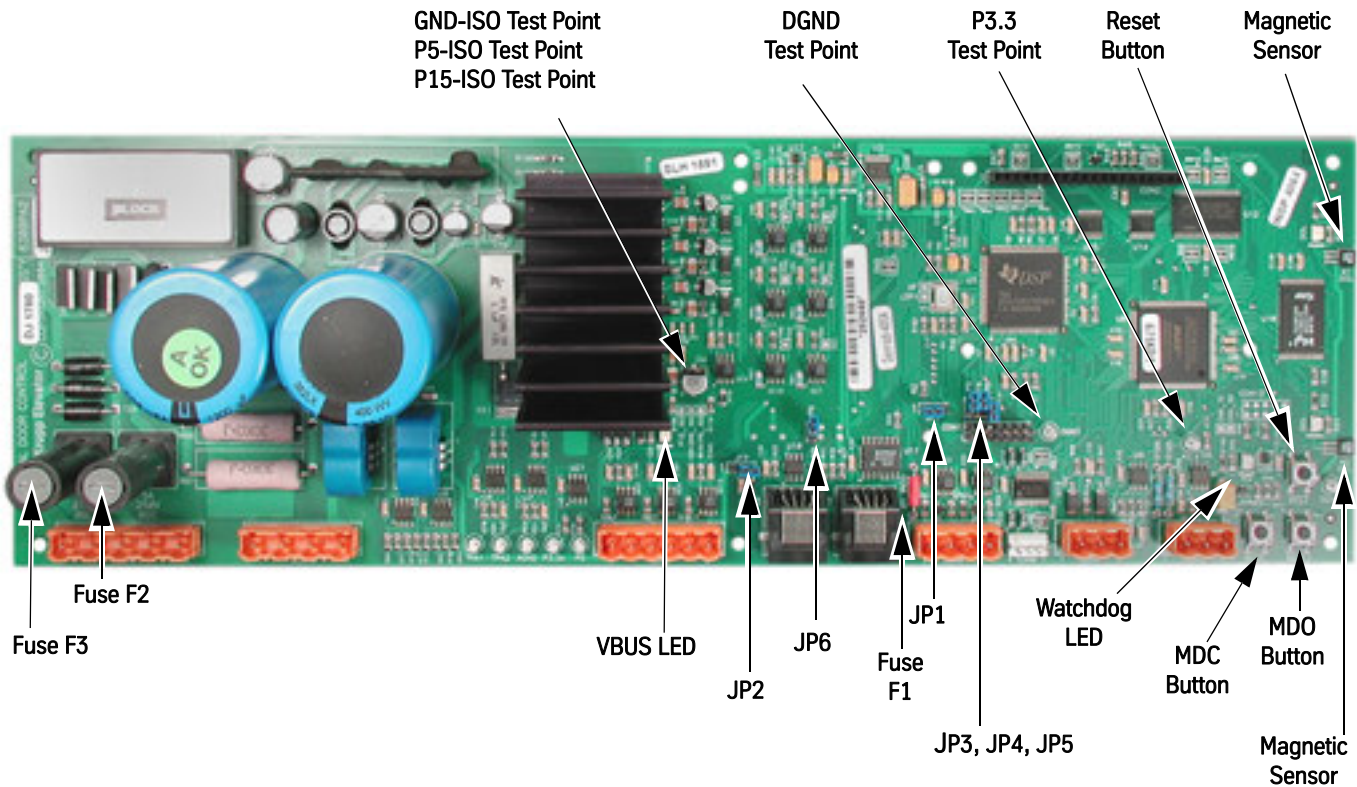

Figure 7 - 6300PA2 Door Operator Card
8. Ensure that the door configuration jumpers on the door card are installed per Table 1. See Figure 7 on page 16 for locations.